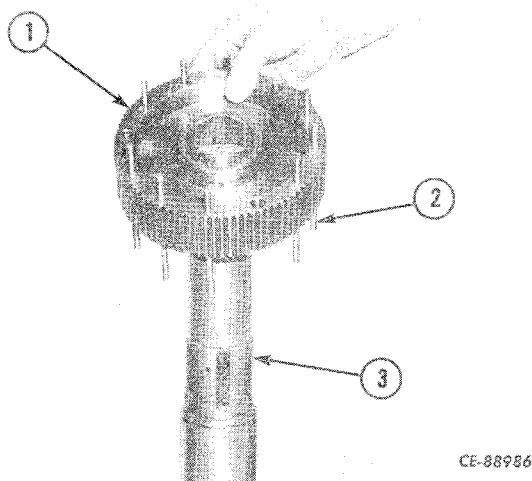

Figure 4-121
Using a soft mallet, tap the cylinder (1, Fig. 4-121) from the shaft (3). If the spring guide